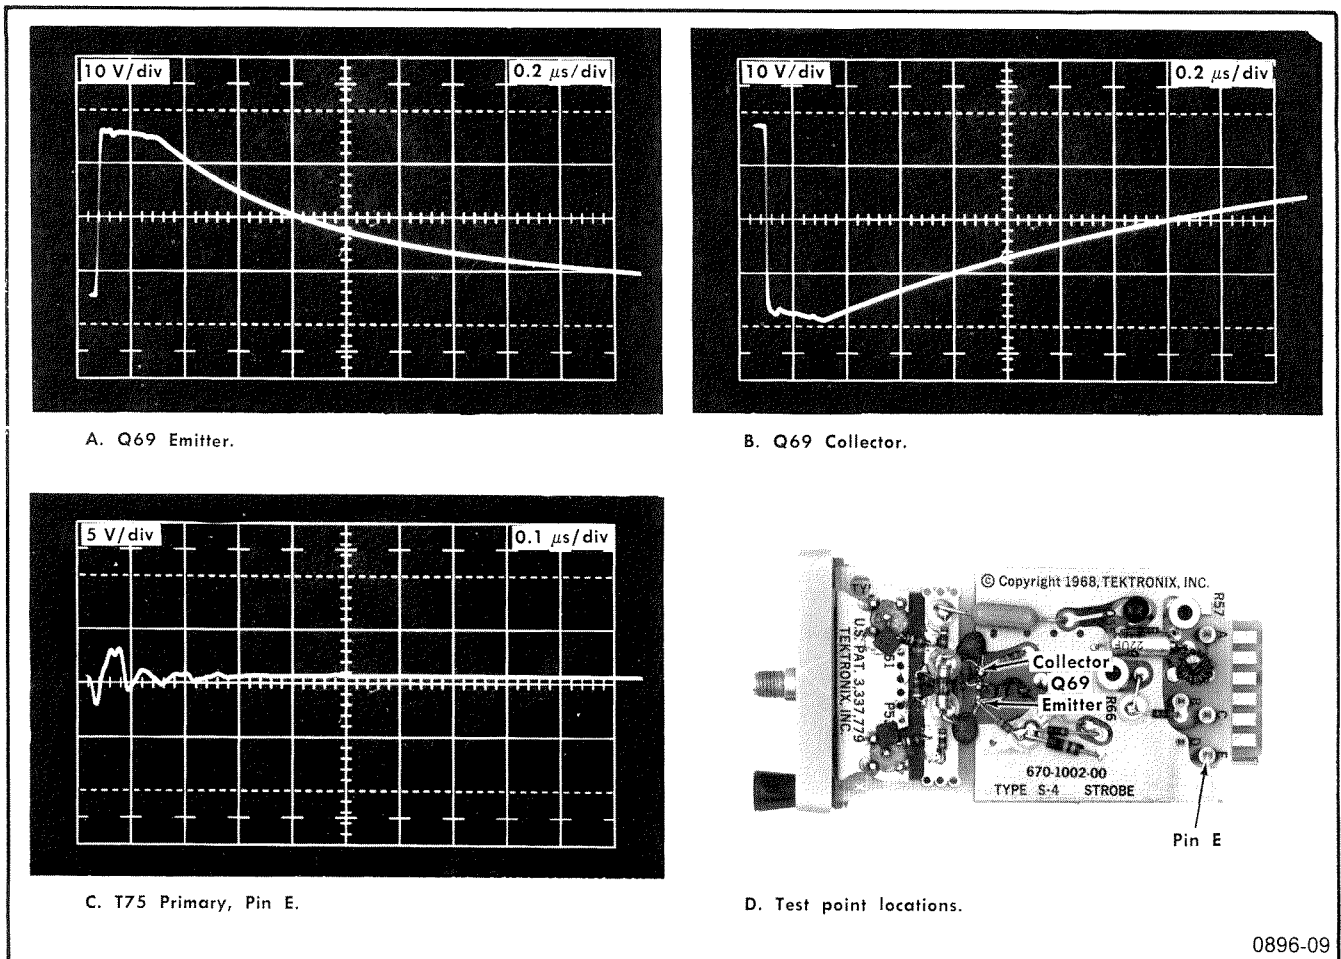

Fig. 4-2. Typical displays for Q69 operation.
d. Check for proper strobe operation by connecting a 10 \times probe from the test oscilloscope to the emitter of Avalanche transistor Q69. Amplitude of the waveforms is affected by adjustment of Avalanche Volts control R66. Check the waveforms at the collector of Q69 and at the Primary of T75 (Pin E of the Strobe Board). Typical displays are shown in Fig. 4-2.